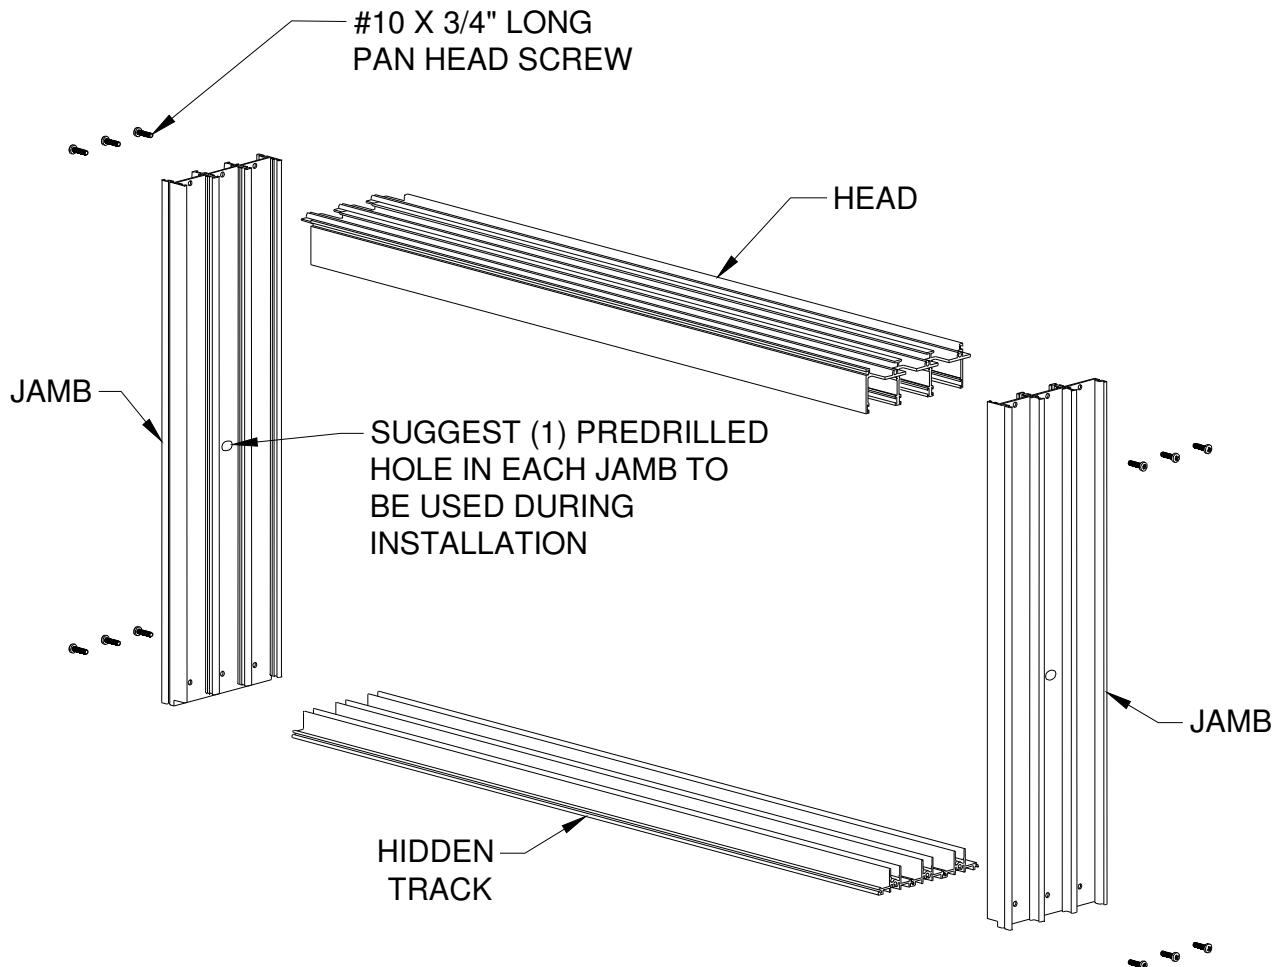

Figure 5:
3. Attach the jamb(s) to the head using #10 x 3/4" long pan head screws (Figure 5). Make sure that the screws pass through the jamb(s) and into the screw races in the head.